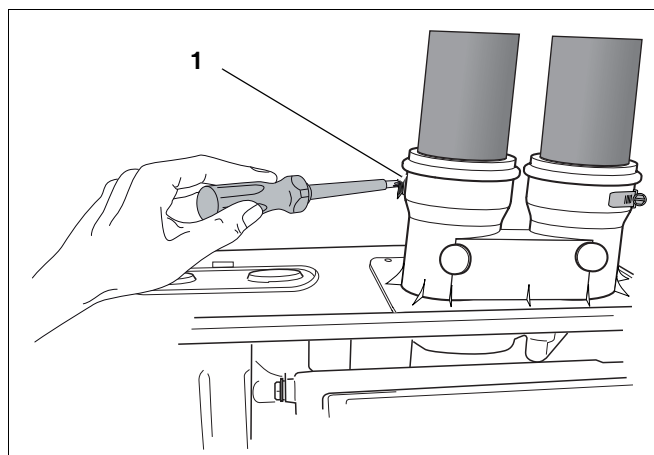

fig. 103 Loosening the fastening screws of the combustion air supply and flue gas exhaust connections
- Loosen the fastening screws of the combustion air supply and flue gas exhaust connections (see fig. 103, pos. 1).